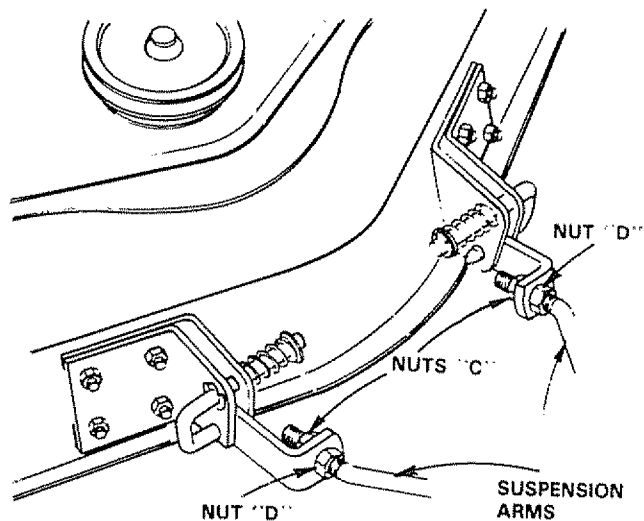

FIGURE 43
- To raise front of mower loosen nuts "D". Screw nuts "C" up onto suspension arms (Fig. 43). NOTE: SCREW NUTS "C" ON BOTH SUSPENSION ARMS THE SAME NUMBER OF TURNS SO MOWER WILL REMAIN LEVEL. Tighten nuts "D" securely.